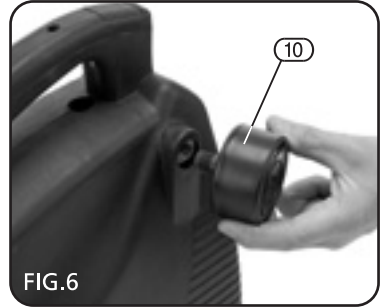

FIG.6
11.1 BASIC MAINTENANCE AND CHECKS – FIG. 6